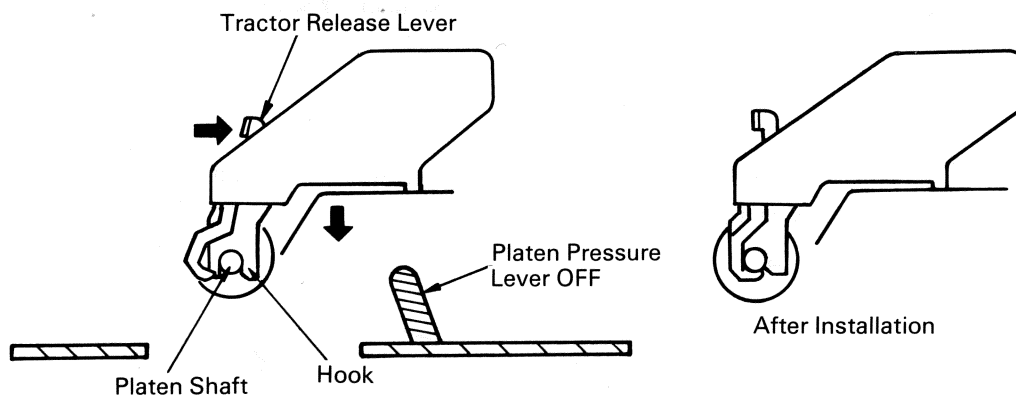

Figure 3
5. Press the Tractor Release Levers and gently position the Tractor Feed's hooks over the Platen Shaft. Release the Levers. The Tractor Feed will then be attached to the Platen Shaft. (See Figures 3 and 4.) Gently turn the Platen Knob to insure proper meshing of the gears (located on the left side of the Tractor Feed Kit).